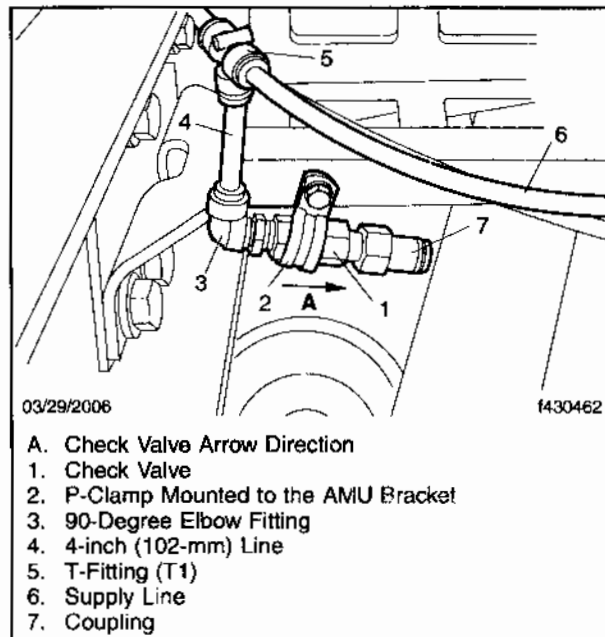

Fig. 1, Check Valve Assembly
IMPORTANT: The arrow on the check valve must point towards the coupling. See **Fig. 1**.
3. Using parts from the recall kit, assemble the 90-degree elbow fitting, check valve, 4-inch (102-mm) of black tubing, and coupling. Apply teflon tape or pipe thread compound to the threads of the fittings. See **Fig. 1**.
4. Locate the *existing* supply line that is routed from the R7 valve to the Park/Aux switch valve in the air manifold unit (AMU). Use plastic tubing cutters or a sharp knife to cut the *existing* supply line next to the first AMU bracket fastener. See **Fig. 1**.
5. Install a *new* T-fitting (T1) from the kit onto the cut supply line above, and onto the 4-inch (102-mm) line that is attached to the check valve assembly. See **Fig. 1**.
6. Using the P-clamp and existing 5/16 x 1-inch AMU bracket capscrew (the first capscrew located on the left-hand side facing towards the bracket), attach the check valve assembly to the AMU bracket. See **Fig. 1**.